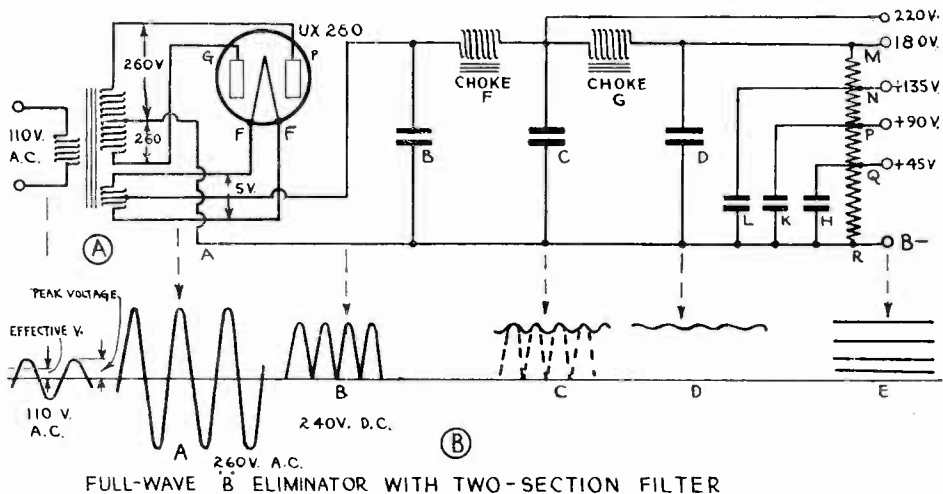

Fig. 54: Schematic diagram of a full-wave power system with a two-section filter.
93. CHOKES AND FILTER CONDENSERS: The filter condensers used in eliminators must be built to withstand the *peak* voltages encountered. The condenser nearest the rectifier is subjected to the highest peak voltages. As the voltages at the input of the rectifier and immediately following it are alternating and pulsating direct current voltages, respectively, the values indicated are the "effective values." The "effective voltage" is the value of voltage which gives exactly the same heating effect as an equal direct current of the same potential. This is the value which an A. C. voltmeter indicates. The peak value of an alternating voltage is the maximum value to which the voltage rises during any part of the cycle (see Fig. 54). The shape of the ordinary A. C. voltages encountered is such that the potential is proportional to the sine of an angle (sine wave), and when the voltage has such a form, the peak value is 1.41 times the effective voltage. As the condenser insulation must safely withstand the peak voltage twice during each cycle, the condensers used must have a voltage rating exceeding the peak voltage for safety.
Thus, in Fig. 54 the A. C. voltage applied to condenser B is about 245 volts. The normal peak value (which the condenser must safely withstand) is 245×1.41 or 345 volts. This should be remembered when constructing an eliminator. The chokes should have sufficient current carrying rating, so that at no time is the carrying capacity reached. When the current rating of a choke is exceeded it rapidly decreases in inductance value and does not then measure up to the requirements of a
In Fig. 54 a 220 volt tap is taken off before the last choke. This is often done to supply a higher voltage to the last power tube, since then the voltage drop through the last choke is eliminated. Not as much filtering is required for this tube since any slight hum introduced is not amplified by any succeeding tubes. Also any coupling which might exist between the last audio stage and other tubes in the set, due to the common heavy plate current flowing through the impedance of the chokes, is reduced, as the last choke is put out of the plate circuit of the power tube by this method.